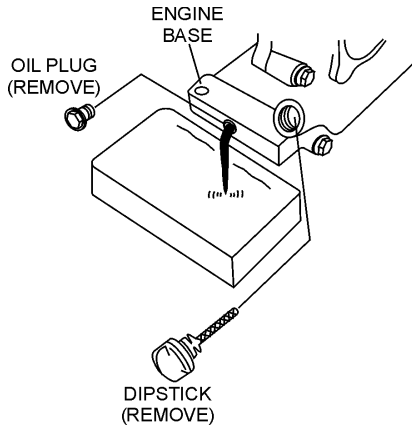

Figure 16. Engine Oil Plug
3. When changing the engine oil, the old oil can be drained by removing the oil filler cap, and unscrewing the engine oil drain plug located at the base of the engine (Figure 16).